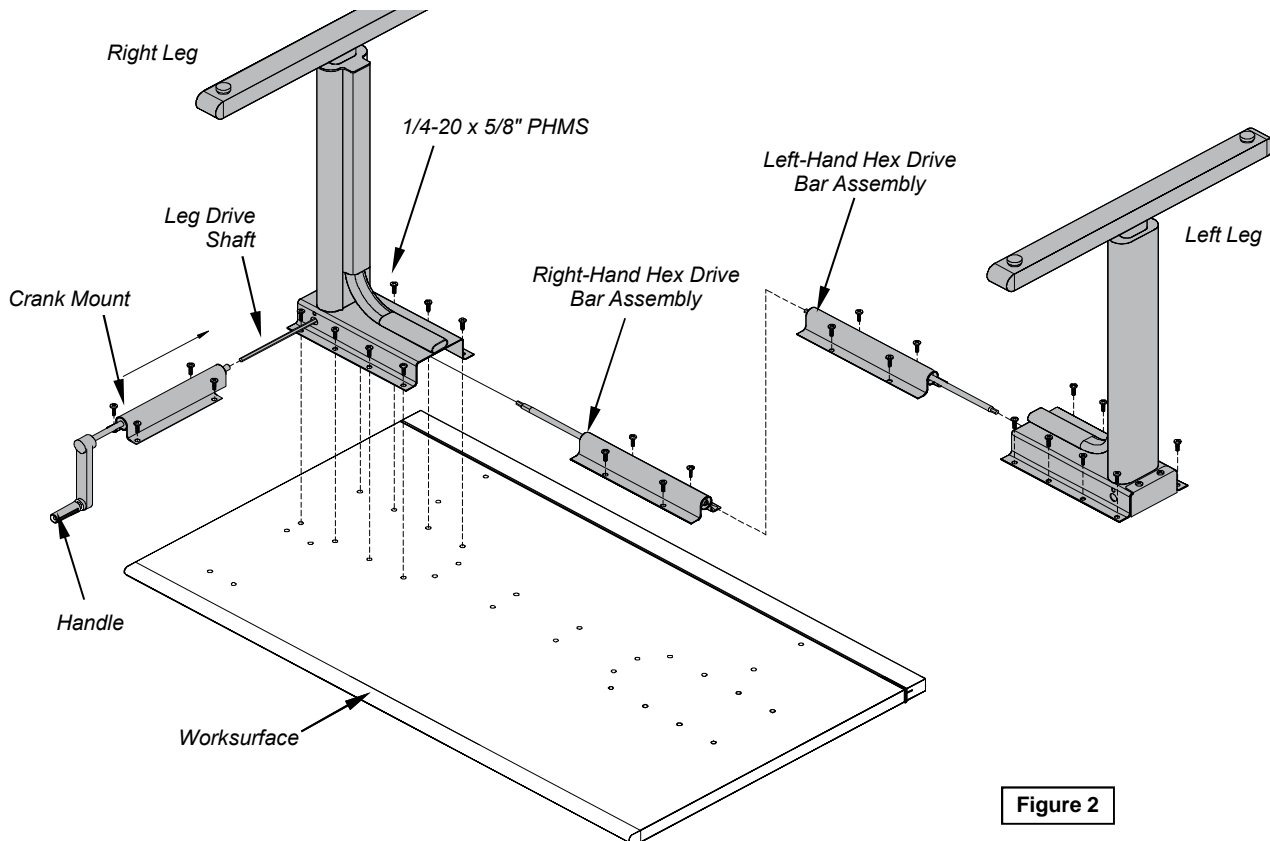

Figure 2
- Carefully flip the worksurface face-down onto a non-abrasive surface and orient the right leg as shown in **Figure 2**.
- Attach the left leg and drive assembly to the worksurface using (8) 1/4-20 x 5/8" PHM screws.